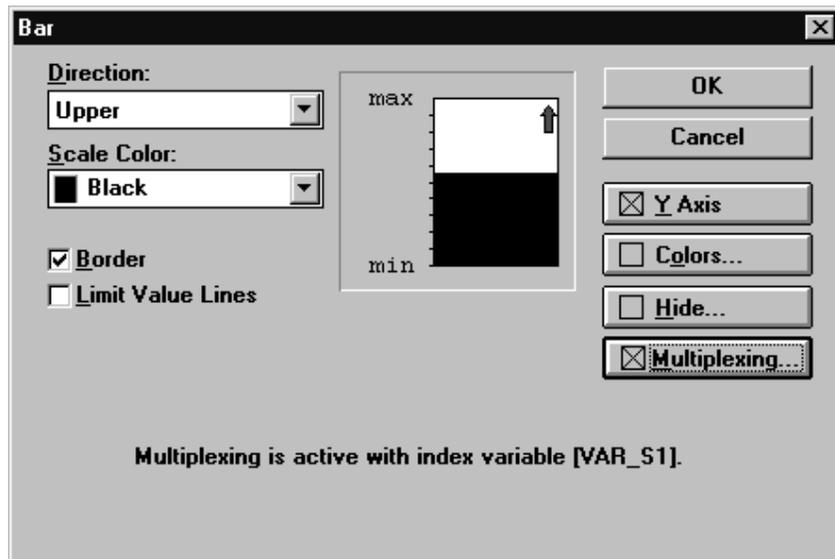

Figure 7-22 Display with Active Multiplexing
- Exit from the *Multiplexing* dialog box by clicking *Ok*. There is now a check mark on the *Multiplexing* button in the *Bar* dialog box to indicate that multiplexing is in use (refer to figure 7-22). In addition, the index variable is specified instead of the *Variable* field.